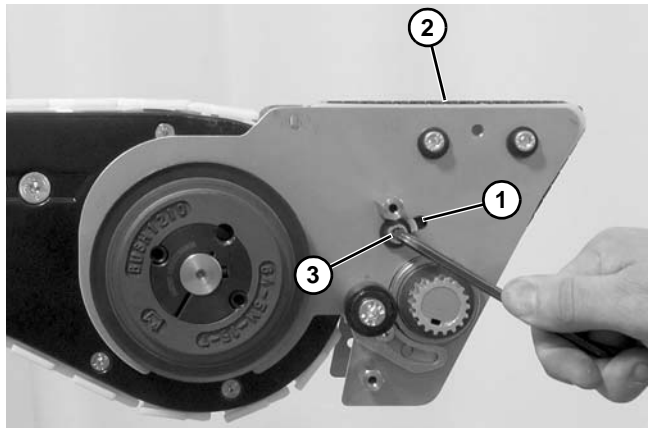

Figure 144
- Slide idler assembly within slot (**Figure 144, item 1**) only enough to remove excess slack from belt (**Figure 144, item 2**). Tighten socket head screws (**Figure 144, item 3**).